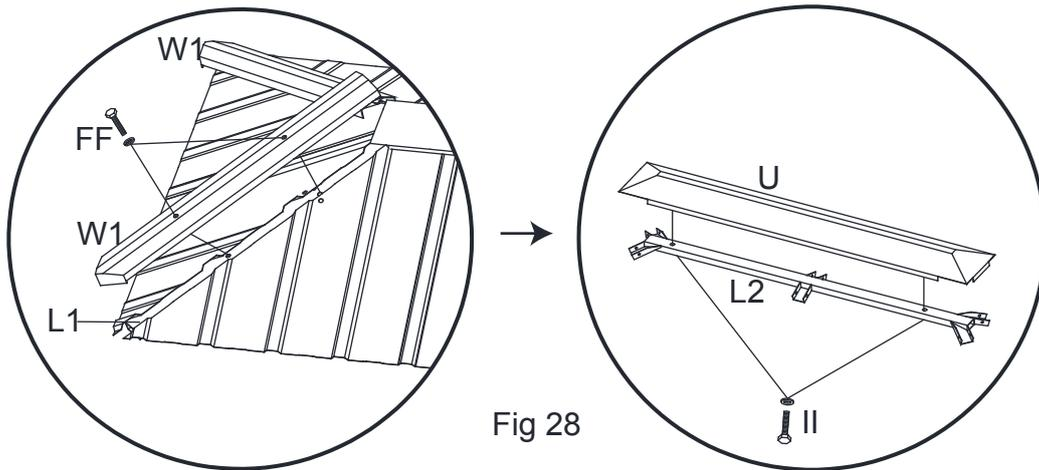

Fig 28
- 14.1 Install the Small-Top Ridge (W1) onto the Small-Top with Bolt (FF), then cover the Big-Top Cover (U) with Bolt (II), as seen in Fig 28.